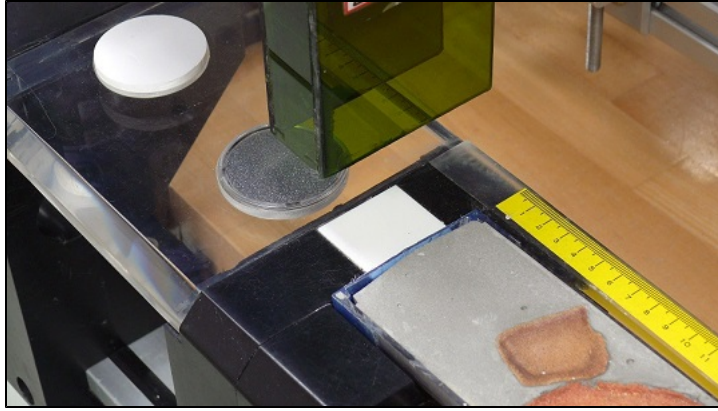

Figure 24. Benchmark location
3. Place the archive section in the core tray with the blue endcap up against the benchmark. The benchmark is the white square at the head of the rails that hold the section halves (Figure 24). If material is missing at the top of the section, section half should be positioned all the way up to the top of the rail.